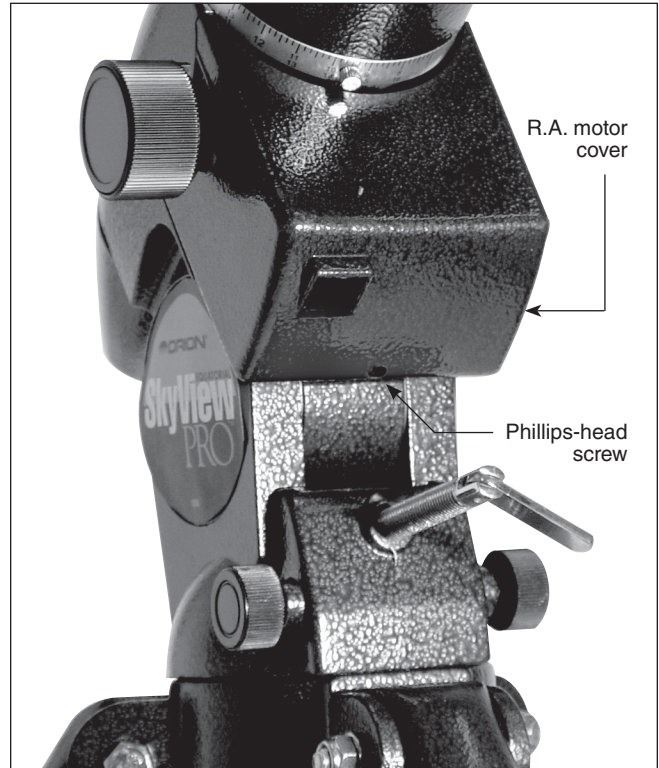

Figure 2. The R.A. motor cover
1. Remove the R.A. motor cover from the mount by loosening the Phillips head screw on the bottom of the cover (**Figure 2**). Slide the cover off the mount.